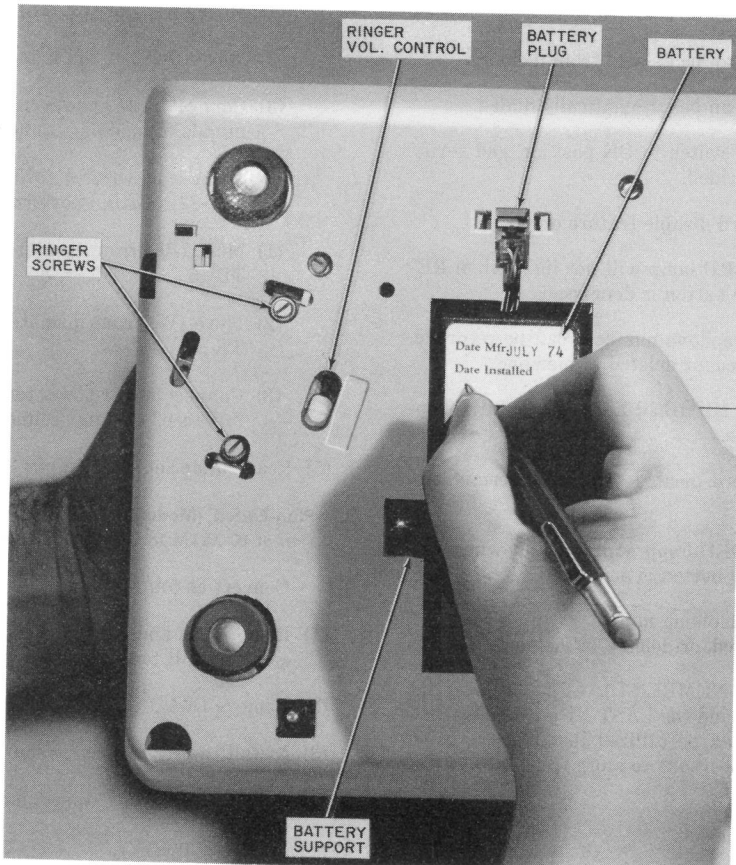

Fig. 5—Telephone Set, Bottom View
**Note:** Write date of battery installation on label provided (Fig. 5).